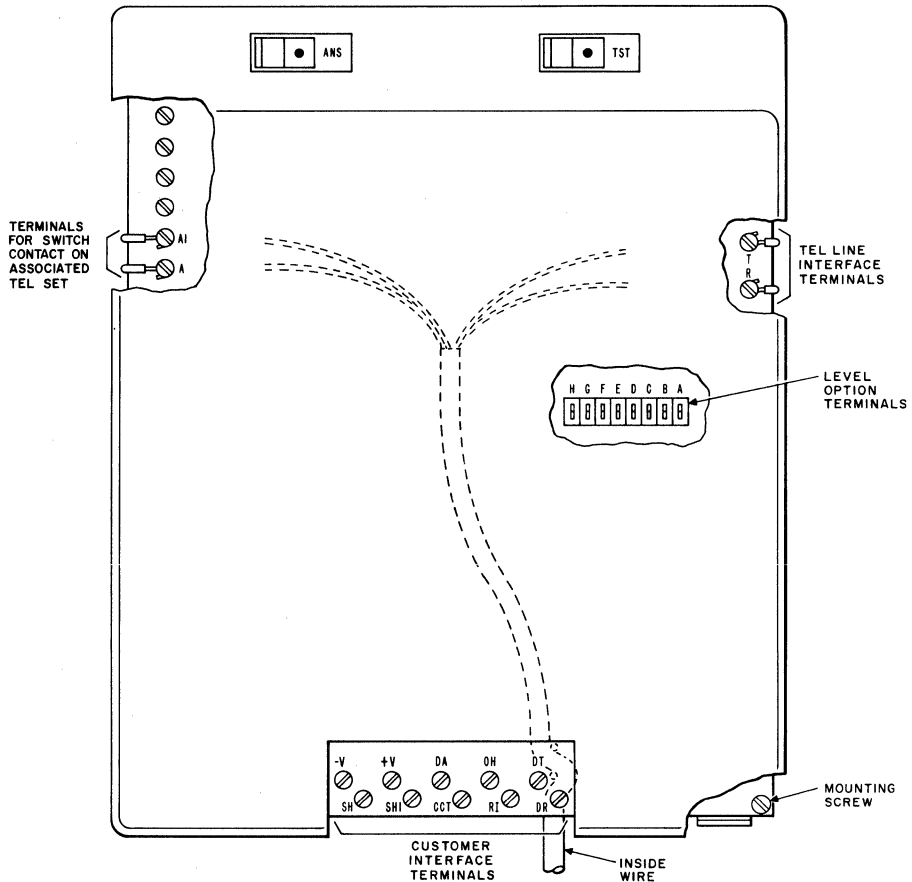

Fig. 2—Route of Station Wiring and Location of Terminals
2.02 Circuitry for the coupler is mounted on a single printed CP. Ten screw terminals, located on the lower end under the small hinged cover, provide the interface for connecting customer equipment (Fig. 2). The interface control leads use contact closures for signaling. See Table A for the designation of interface leads. The cord required for connecting customer equipment to the interface must be supplied by the customer.